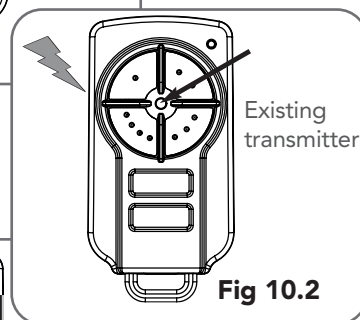

Fig 10.2
- Use a small pin / pen to press and hold through the Coding Hole of the existing transmitter for 2 seconds (**Fig. 10.2**).